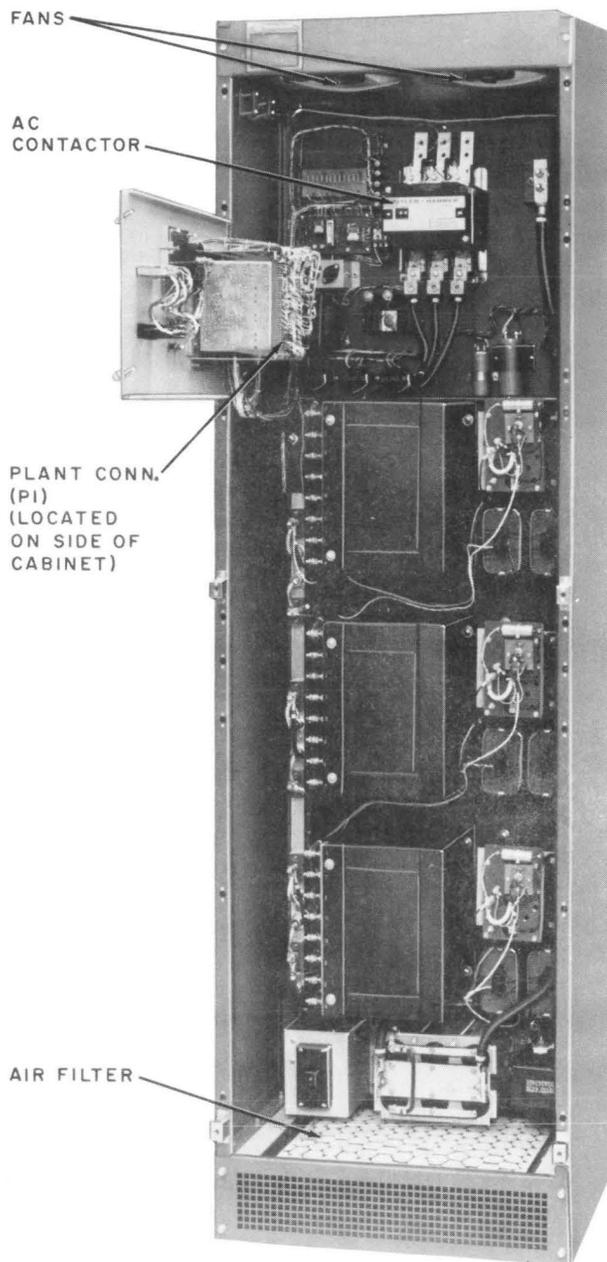

Fig. 3—KS-2113 Rectifier—Covers Removed
- (c) The plant control plug (P1) is disconnected (Fig. 3).